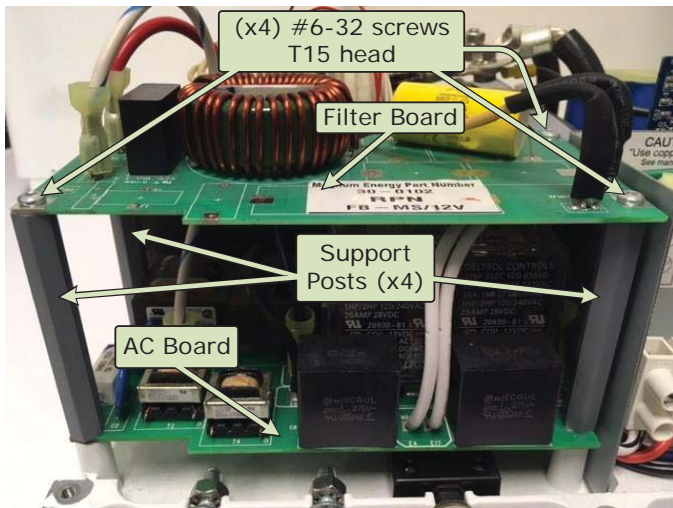

Figure 1, Filter Board Removal
3. Remove the four #6-32 screws (T15 Torx head) and support posts securing the filter board (see Figure 1).
- Reposition the filter board over the AC board (with the support posts in place), and then insert the four #6-32 screws (3½", T15 Torx head) to secure both boards to the inverter's base. See Figure 1.